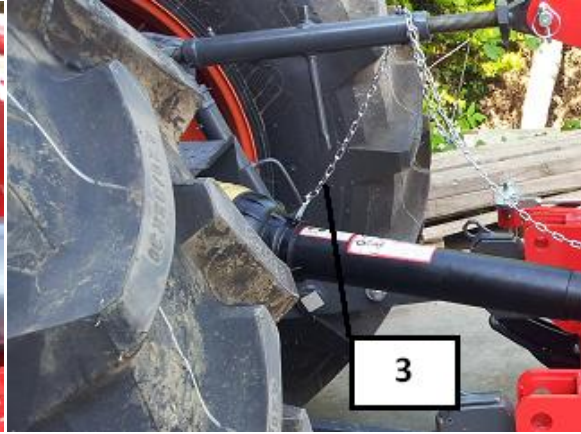

Figure 10
(See Figure 10.A/B/C)
- Place the protective pipe and protective funnel of the shaft, the P.T.O. shaft of the tractor, and the machine transmission output shaft, and position pursuant to regulations. Ensure that the housing of the protective pipe incorporated the joints and is secured with chains against rotation. **(3) (See Figure 10)**